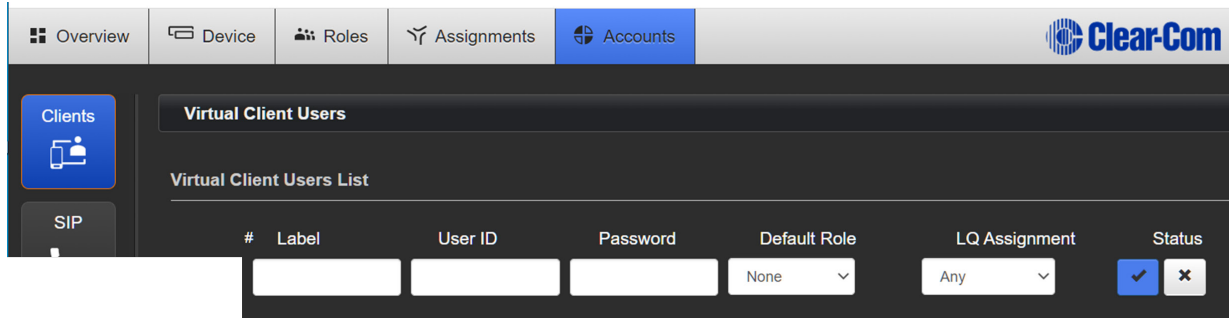

Fig. 32
EQUIP base station channels connect to LQ as Virtual clients (VC). To set up VC channels in LQ, create accounts for each channel that you want to be connected to the EQUIP base station, select the Accounts tab in LQ, and create a client user, see Fig. 32.